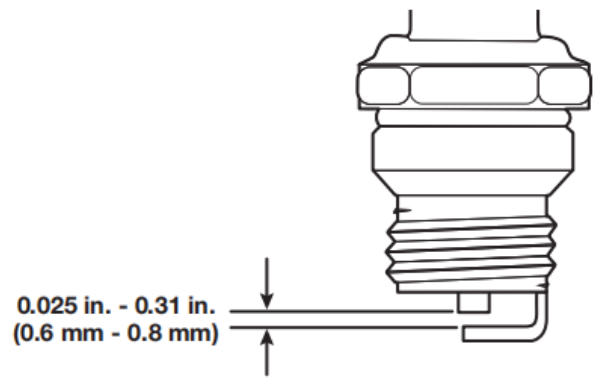

Fig. 15
- 5) Use a feeler gauge to set the air gap at 0.025 - 0.31 in. (0.6 mm - 0.8 mm) (Fig. 15).